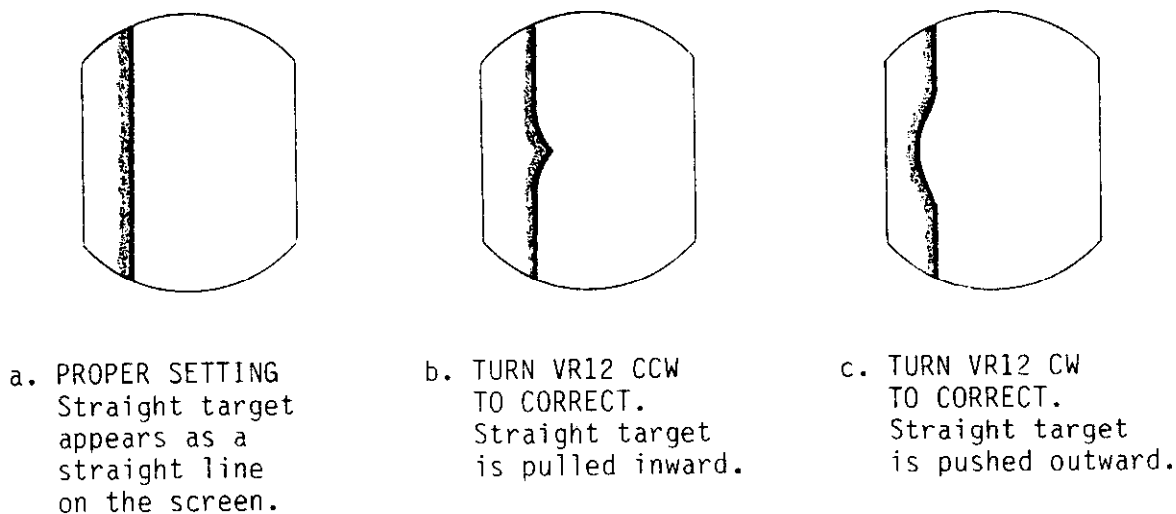

Fig.5-18 Transmission Timing
- * Straight wharf or breakwater appears bent inward or outward at the center of the screen on 0.25 nm range. (See Fig.5-18.)